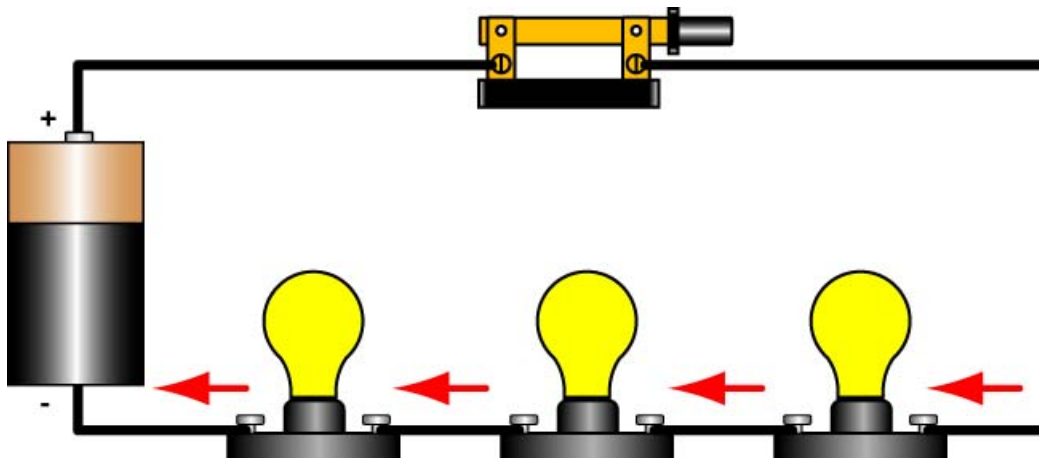

Figure 21: Three Lamps in Series with One Current Pathway
- **Series:** A circuit where the components are connected end to end in a chainlike manner. There is only one pathway for the current to flow. See Figure 21.